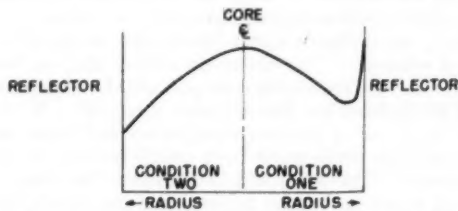

Fig. 1 Heat-generation gradients for two conditions of SIR reactor
While the cooling for a known heat-generation condition can be established by analysis and flow tests, the problem of cooling a changing heat-generation profile properly is extremely difficult if not impractical. Since the heat-generation profile changes with the burn-up of fuel and control-element positions, it becomes evident that the orificing of a coolant cannot match closely the heat generation under all conditions. This means that large temperature differences can exist at the core exit if large changes in heat distribution occur. Fig. 1 gives an example of how heat-generation gradients might look for two conditions of the SIR reactor.
The cause of the change between heat-generation profile given by conditions (1) and (2), Fig. 1, is the insertion of a control element at the core interface. In the first condition the reflector region causes neutrons to return into the core where they cause fission of the fuel at this place. The heat generation is proportional to the number of fissions that occur, and the number of fissions is a function of the neutron density, the number of fuel atoms present, and the energy of the neutrons. Since in most reactors the fuel loading does not vary with location, the neutron density and energy are the